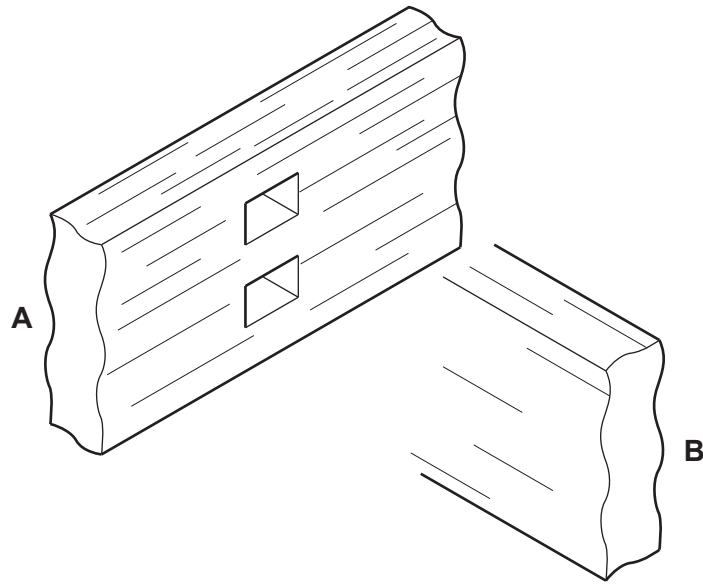

Fig. 1.1
- 1 Fig. 1.1 shows parts **A** and **B** of an incomplete drawing of a twin mortise and tenon joint.
Draw on part **B** in Fig. 1.1 to show the twin tenons.